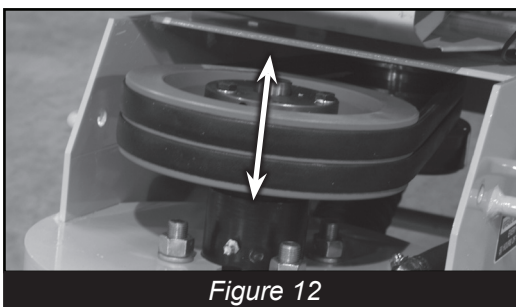

Figure 12
- Inspect for lash in head (Does head move up/down) ? (*Figure 12*). Verify that jam nuts, items 8 on page 10 in Parts Breakdown are tight and there isn't any play. Allowing these nuts to remain loose can damage the head assembly.